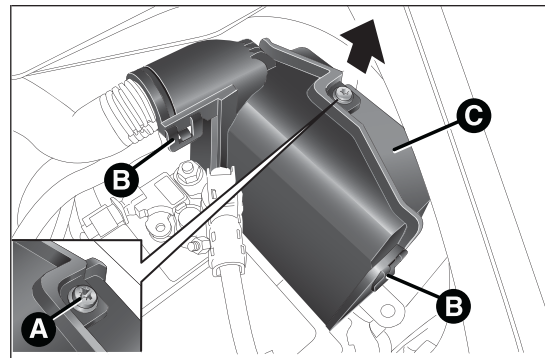

fig. 153
- undo screw A fig. 153, release tabs B and remove cover C by pulling upwards.